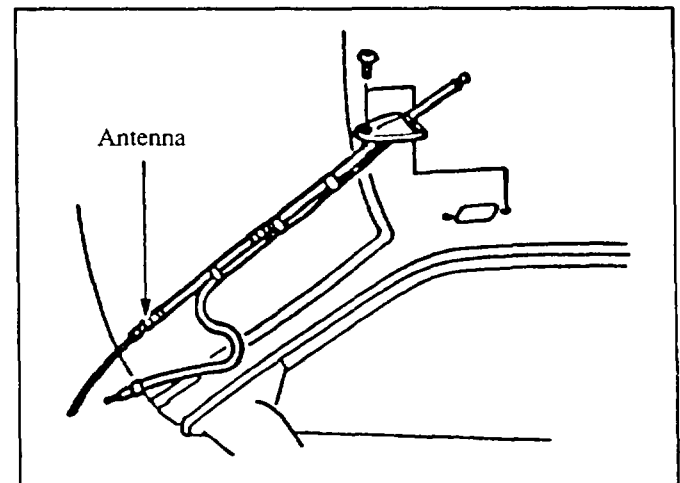

Figure 13: Inspecting Antenna Bezel
- If the leak persists, inspect the antenna bezel molding and gasket for correct sealing and mounting. Confirm that the mounting screw is fully seated and that the gasket is firmly contacting the roof sheet metal. **Figure 13.**